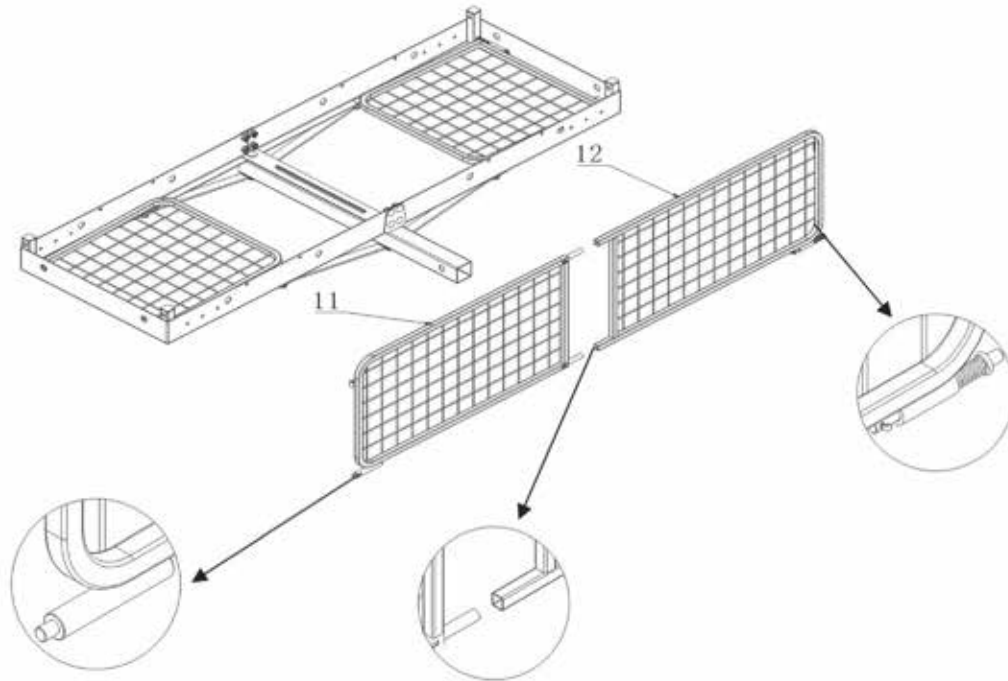

FIG. 5
Step 6. Insert the front left and right fences (11, 12) together, and assemble them on the corner fixtures of the supporting frames (1). For ease of assembly, place with the fencing inside. See Fig. 5.